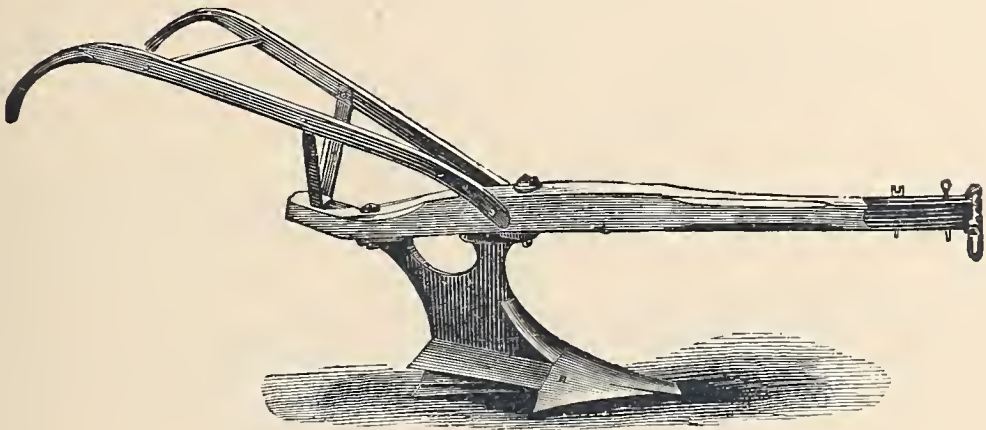

Fig. 294. — Cast Subsoil Plow.
*The Cast Subsoil Plow*, made after the Scotch model, is represented by *Fig. 294*, and we manufacture four sizes ; viz., —